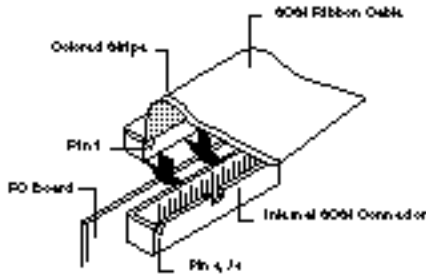

Figure 6 - Connecting the 50-pin internal flat ribbon cable
- Figure 6 shows how to attach the internal SCSI cable to the host adapter card. Connect one end of the internal 50-pin flat SCSI ribbon cable to connector J1 of the 3092 -S/SL host adapter card, and the other end to any internal device. Be sure to connect the colored edge of the ribbon cable to the side of J1 marked with an arrow (pin # 1). Make certain that the internal SCSI devices are connected with the colored edge of the cable to pin 1 of the device.